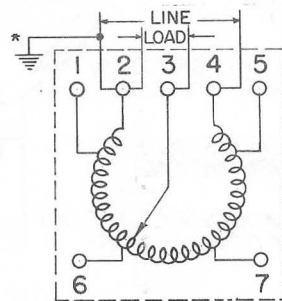

FIGURE 5
2. For particular applications, where the Variac is used with a fixed, known load, and where the overvoltage connection is omitted (Figures 5 and 8), maximum current may be drawn at line voltage. When the Variac is so connected, the current fall-off with decreasing output voltage will always keep the current within safe limits.